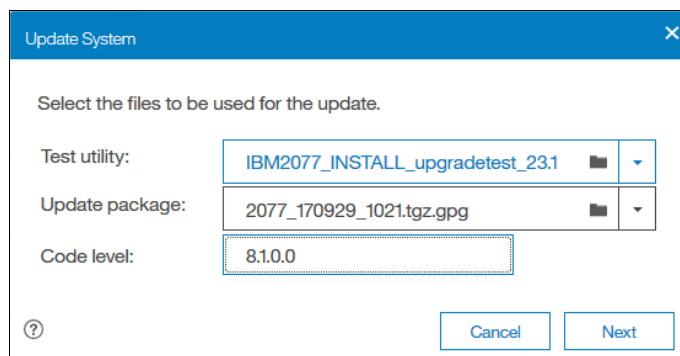

Figure 12-44 File selection
2. Select the test utility and update package files by clicking the folder icons, as shown in Figure 12-44. The code levels are entered automatically.